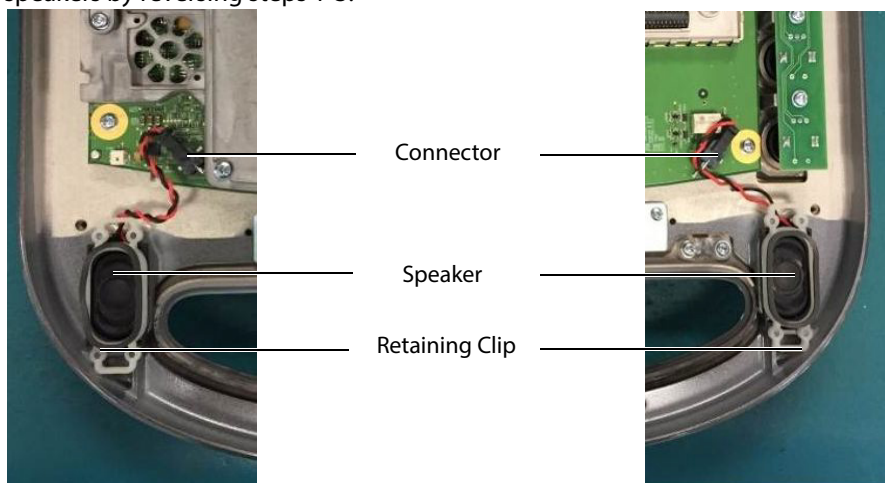

Figure 6.10 Speaker Replacement
- 2 Gently pry off the retaining clip with a flat bladed pry tool. See Figure 6.10.